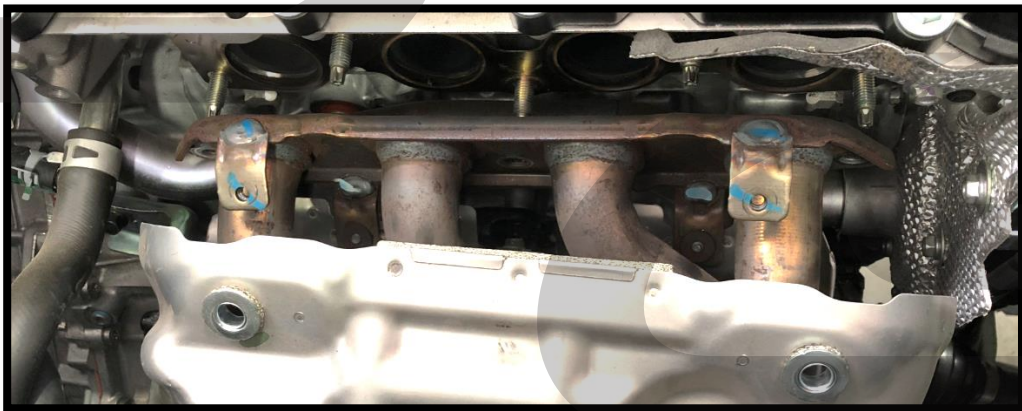

Figure 4d
- e) Slide the OEM header off its mounting studs and let it sit lower down in the engine bay. This is shown in **Figure 4d**.